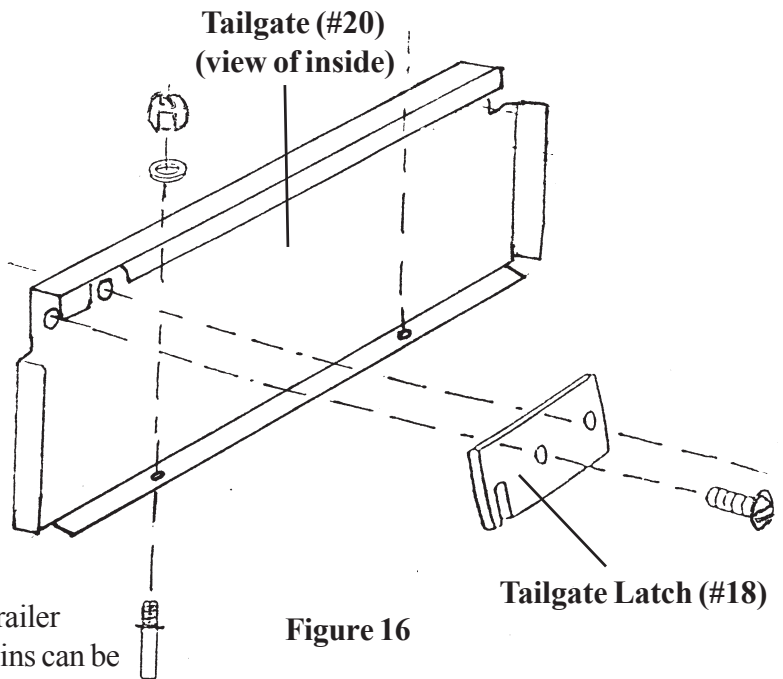

Figure 16
Step 16: Attach the two Tailgate Latches (#18) to the inside of the Tailgate (#20) using 2 Bolts (#21), 2 Washers (#23) and 2 Nuts (#24) for each Tailgate Latch (see Figure 16).